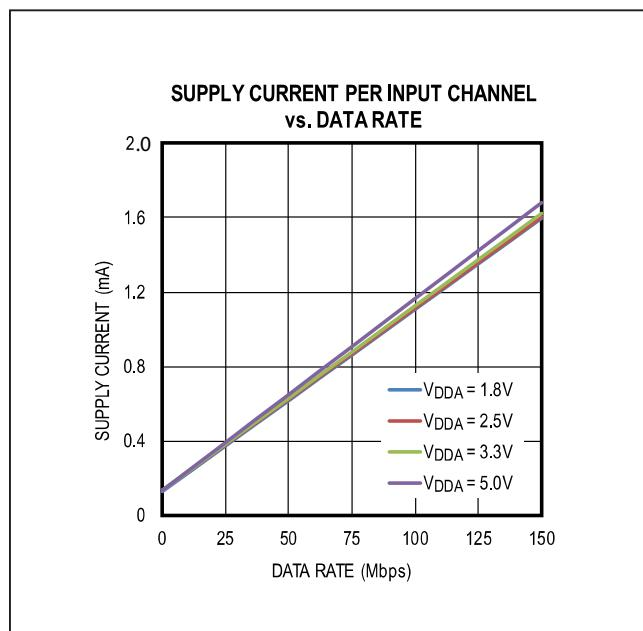
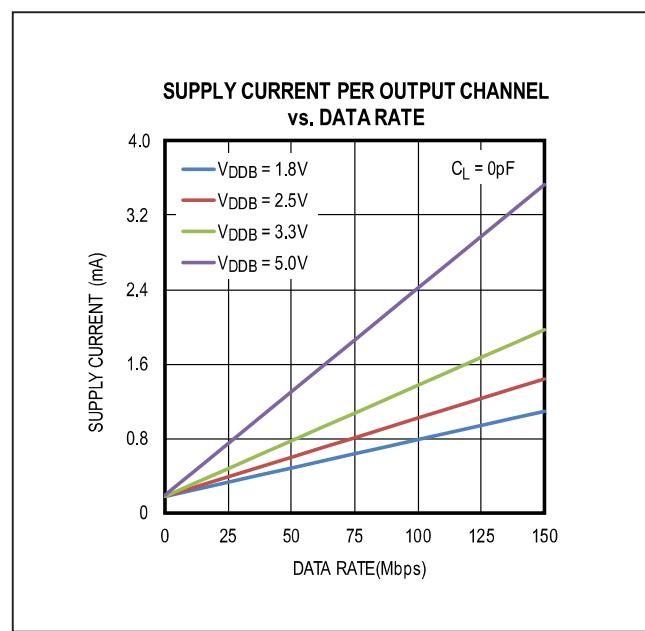

Figure 6. Supply Current Per Input Channel (Estimated)
Figure 7. Supply Current Per Output Channel (Estimated)
The required current for a given supply ( $V_{DDA}$  or  $V_{DDB}$ ) can be estimated by summing the current required for each channel. The supply current for a channel depends on whether the channel is an input or an output, the channel's data rate, and the capacitive or resistive load if it is an output. The typical current for an input or output at any data rate can be estimated from the graphs in Figure 6 and Figure 7. Please note the data in Figure 6 and Figure 7 are extrapolated from the supply current measurements in a typical operating condition.
The total current for a single channel is the sum of the "no load" current (shown in Figure 6 and Figure 7) which is a function of Voltage and Data Rate, and the "load current," which depends on the type of load. Current into a capacitive load is a function of the load capacitance, the switching frequency, and the supply voltage.
- Channel 1 is an input channel operating at 2.5V and 20Mbps, consuming 0.33mA, estimated from Figure 6.
- Channel 2 and 3 are input channels operating at 2.5V with DC signal, consuming 0.13mA, estimated from Figure 6.
- Channel 4 is an output channel operating at 2.5V and 100Mbps, consuming 1.02mA, estimated from Figure 7.
- Channel 1 is an output channel operating at 3.3V and 20Mbps, consuming 0.42mA, estimated from Figure 7.
- Channel 2 and 3 are output channels operating at 3.3V with DC signal, consuming 0.18mA, estimated from Figure 7.
- Channel 4 is an input channel operating at 3.3V and 100Mbps, consuming 1.13mA, estimated from Figure 6.